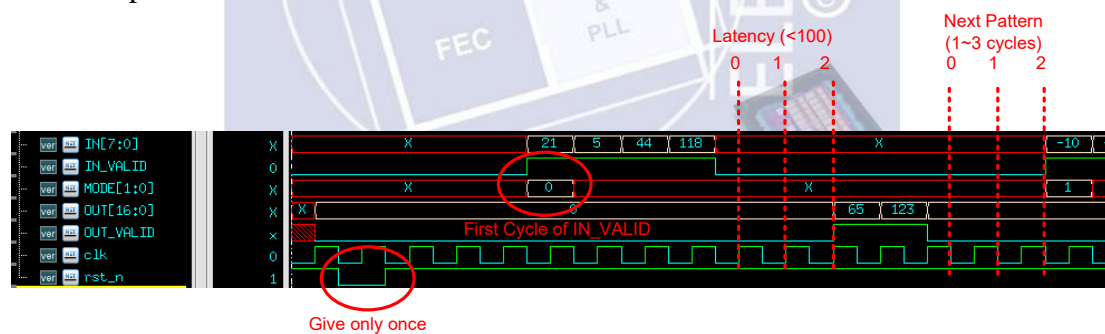

Fig.1
6. The latency of your design in each pattern should not be larger than **100** cycles. The latency is defined in Fig.1.